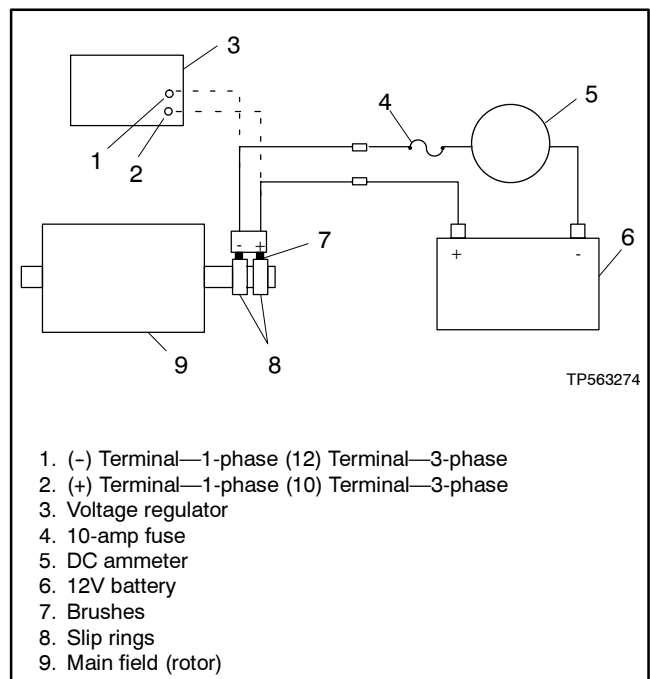

Figure 6-3 Separate Excitation Connections
2. Connect a DC ammeter, 10-amp fuse, and a 12-volt automotive battery to the positive (+) and negative (-) brush leads as shown in Figure 6-3. Note and record the ammeter reading.